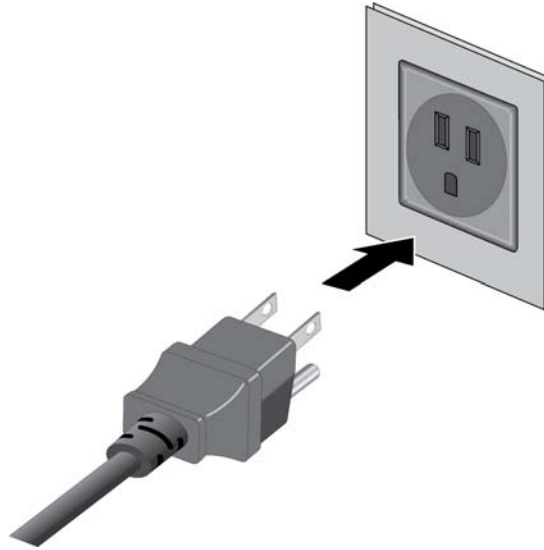

Figure 51. Connecting the Power Cord to an AC Power Source
4. Connect the power cord to an appropriate AC power source. Refer to Figure 51 on page 94.